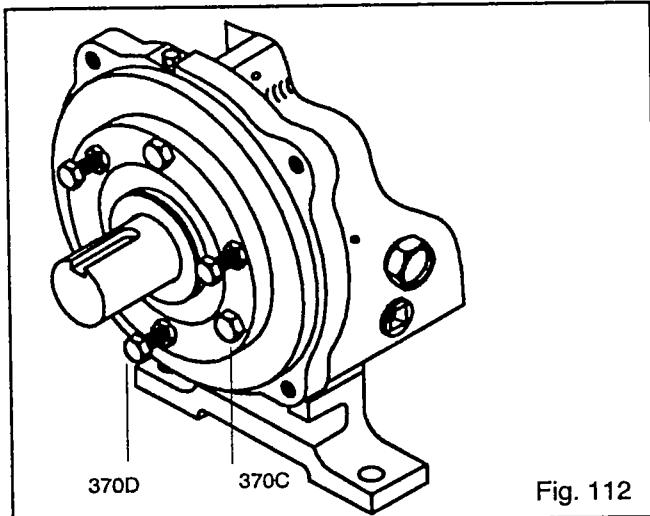

Fig. 112
6. Loosen clamp bolts (370C), and jacking bolts (370D). Measure gap between impeller (101) and seal chamber/stuffing box cover (184) with a feeler gauge. When 0.030 in. clearance is reached, tighten clamp bolts (370C), jacking bolts (370D), and locking nuts (423) (Fig. 112)